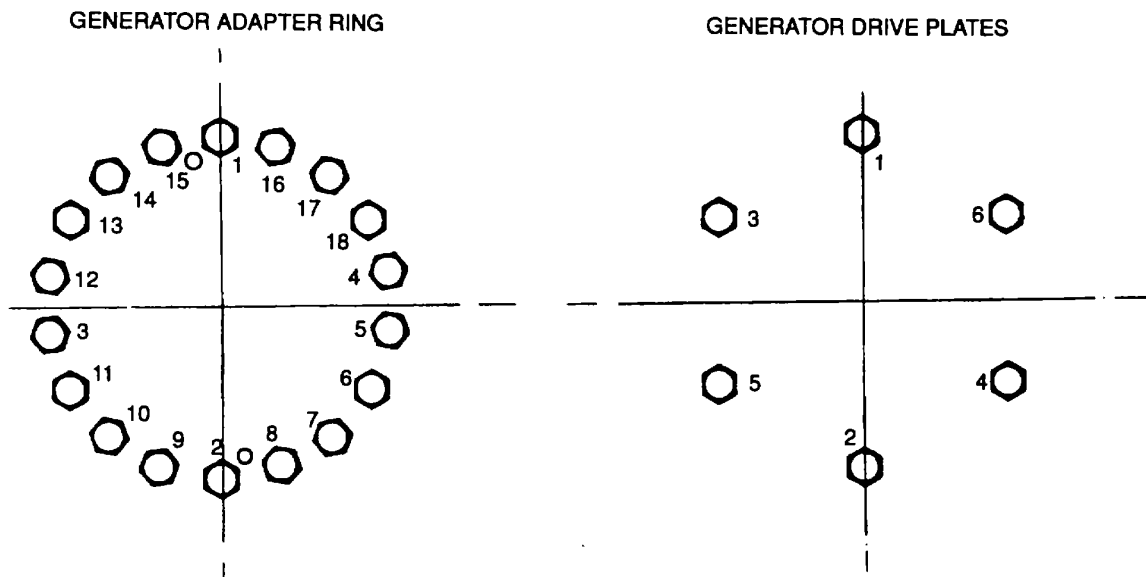

Figure 2-10. Generator G1, Torque Sequence of Adapter Ring and Drive Plates (Flexible Discs)
- (32) Check the gap at the 12 o'clock position of the adapter. If it is still within the acceptable limit of 0 to 0.015 inches (0.38 mm), loosen the hexagon head capscrews and lockwashers, securing the generator adapter to engine flywheel housing and torque capscrews to 50 pound-feet (68 newton-meters) in accordance with Figure 2-10.
- (33) See Figure 2-4, detail B. Install hexagon head capscrews and locking plates to secure the generator drive discs to the engine flywheel. Torque the capscrews to 112 pound-feet (152 newton-meters) in accordance with Figure 2-10 and bend a locking plate corner to a flat side of each screw. After installing at least two hexagon head capscrews remove the guide pins that were used to pilot the generator to the engine.